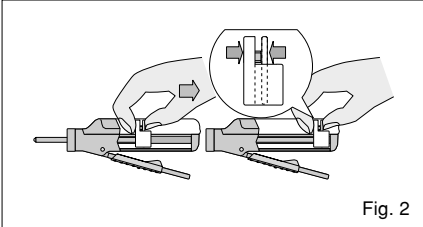

Fig. 2
*Test Method based on ISO 9917:1991 (E) (Glass polyalkenoate cement)
- a. Make sure that the piston is completely retracted into the dispenser. (Fig. 2)